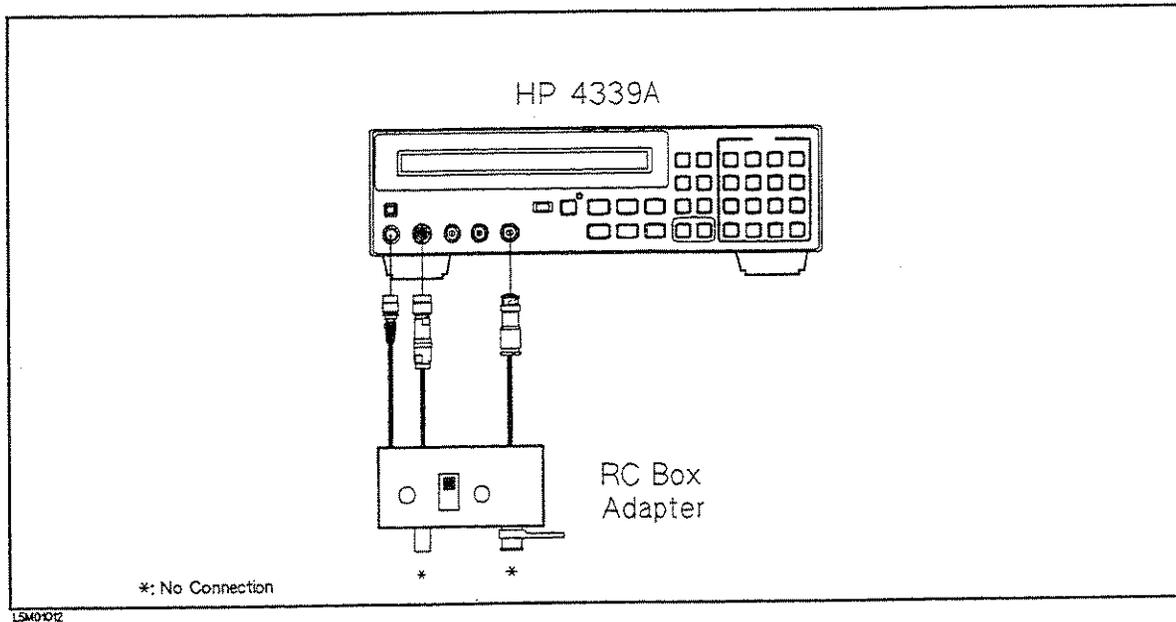

Figure 9-9. Resistance Measurement Accuracy Test Setup (Grounded)
21. Set up the equipment as shown in Figure 9-9.